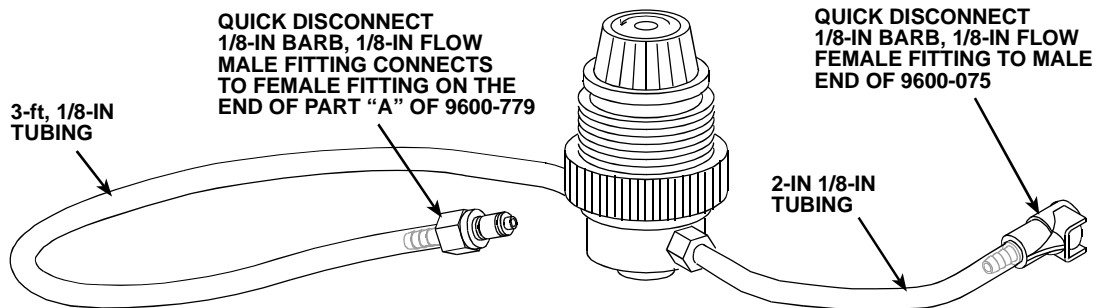
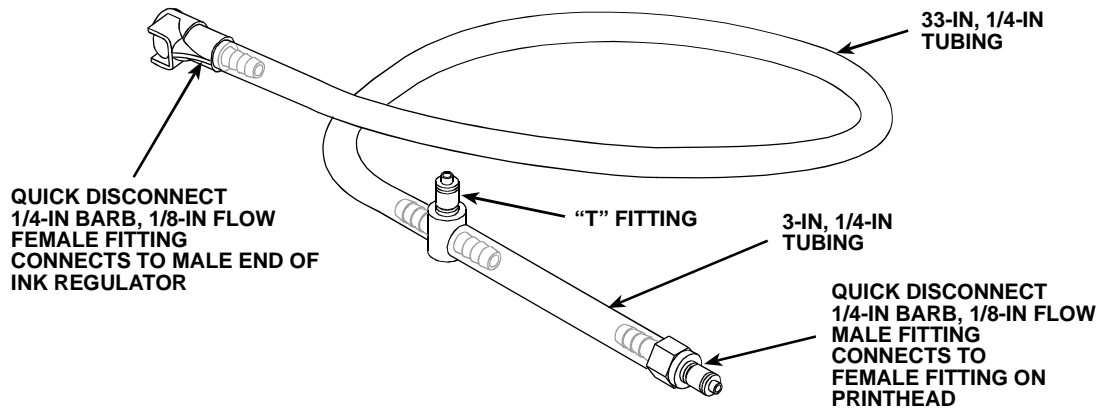
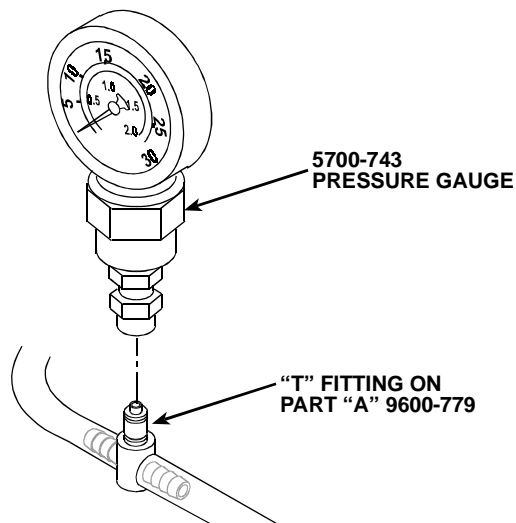

Figure 14 Ink Regulator Assembly (1902-700)
Figure 15 Part "A" tubing (9600-779)
Figure 16 Pressure Gauge (5700-743)
- Diagraph IV ink jet printing system with pigmented ink printheads and regulators (*Figure 14, also see Table 1*)
- 5700-743 pressure gauge (*Fig. 16*)
2. The 1902-700 INK REGULATOR assembly comes with the pigmented ink printhead. The tubing on one side of the regulator is a 3-ft long, 1/8-in tube terminated with a quick disconnect male fitting. The tubing on the other side is a 2-in long, 1/8-in tube terminated with a quick disconnect female fitting side (*Fig. 14*).
3. Part “A” (*Fig. 15*) of the 9600-779 tubing assembly consists of a 33-in long, 1/4-in tube and a 3-in long, 1/4-in tube connected together by a “T” fitting. The end of the 33-in tube has a quick disconnect female fitting that connects to the male end of the ink regulator. The end of the 3-in long, 1/4-in tube has a quick disconnect male fitting that connects to the female fitting on the printhead (DO NOT CONNECT TO PRINT HEAD YET). The “T” fitting is for the supplied 5700-743 pressure gauge (*Fig. 16*).
6. Adjust the printhead ink pressure with the INK REGULATOR (*Fig 14*) until the required setting for the printhead (refer to Table 1) appears on the pressure gauge (*Fig. 16*). If the recommended printhead pressure required could not be reached, try partially closing the TANK RETURN valve (**F**) to restart the flow of ink back into the container. This should generate adequate ink back pressure to enable the printhead to reach the required ink PSIG pressure.